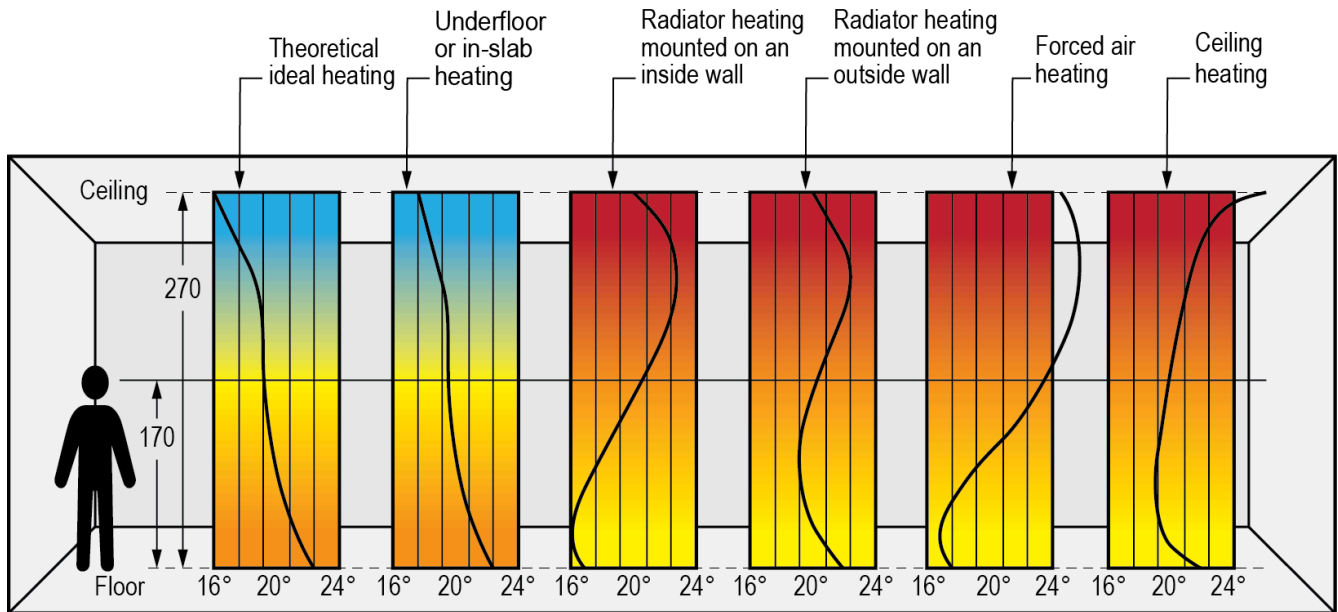

Figure 2 This graph shows ideal heat and temperature; blue is cold, red is hot. (Skilled Trades BC, 2021) Used with permission.
In a typical indoor environment, approximately 48% of a person's body heat is released by thermal radiation to colder surfaces (e.g., standing by a window), 30% is released by convection to surrounding air (e.g., sitting in a drafty room), and 22% is released by evaporation from the skin (sweating). A small amount may also be released by conduction from skin or clothing surfaces in contact with cooler objects (e.g., bare feet on a cold floor and also through respiration (breathing out warm air)). Because the human body is affected mostly by radiant heat loss, people feel the effects of proximity to cold surfaces such as windows and supermarket refrigerators and freezers more easily. The greater the temperature differential (ΔT) between body temperature and ambient or surface temperature, the faster the rate of departing body temperature. Sometimes people notice that they feel cold while standing beside cold surfaces when the ambient temperature is actually at the comfortable level of 22°C. This is the reason that radiant heating systems are widely accepted as being the most comfortable of all (Figure 2).
- **Less air stratification:** stratification is the tendency of warm air to rise and accumulate at the ceiling, as shown in Figure 2, while cold air falls and gathers at the floor. The heat losses through the walls near the ceiling are much higher with these “bands” of stratification.